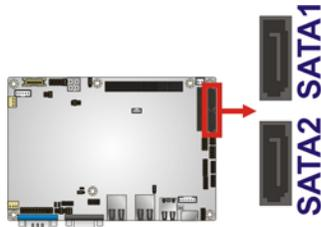

Figure 3-16: SATA Drive Connector Locations
- CN Location:** See **Figure 3-16**